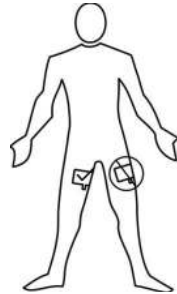

Figure 3: Application Location
5. Apply the dispersive electrode to the inner thigh of either leg with the tab facing toward the feet of the patient, reference Figure 3. Avoid scar tissue, bony areas, excessive fatty tissue, and areas where fluid may pool. Do not apply where the circumference of the leg is less than 25 cm. Ensure there are no metal implants e.g. endoprosthetics or bone plates in the path of the current.